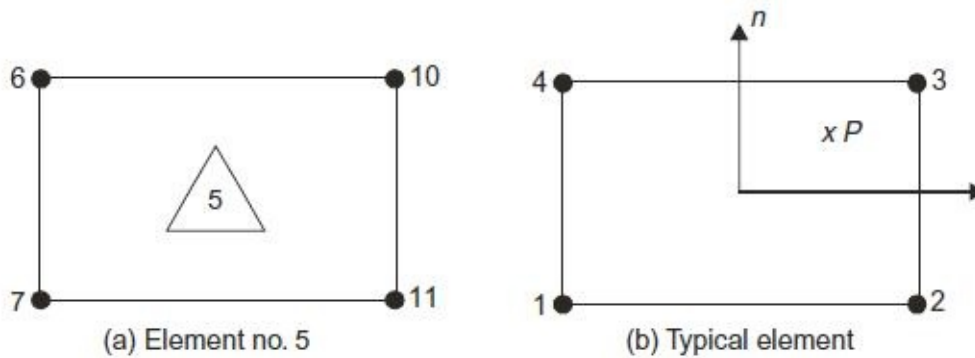

Fig. 1.3
Step 1: Four noded isoparametric element (refer Fig 1.3) is selected for the analysis (However note that 8 noded isoparametric element is ideal for this analysis). The four noded isoparametric element can take quadrilateral shape also as required for elements 12, 15, 18, etc. As there is no bending of strip, only displacement continuity is to be ensured but not the slope continuity. Hence displacements of nodes in x and y directions are taken as basic unknowns in the problem.
Step 3: The displacement of any point inside the element is approximated by suitable functions in terms of the nodal displacements of the element. For the typical element (Fig. 1.3 b), displacements at P are